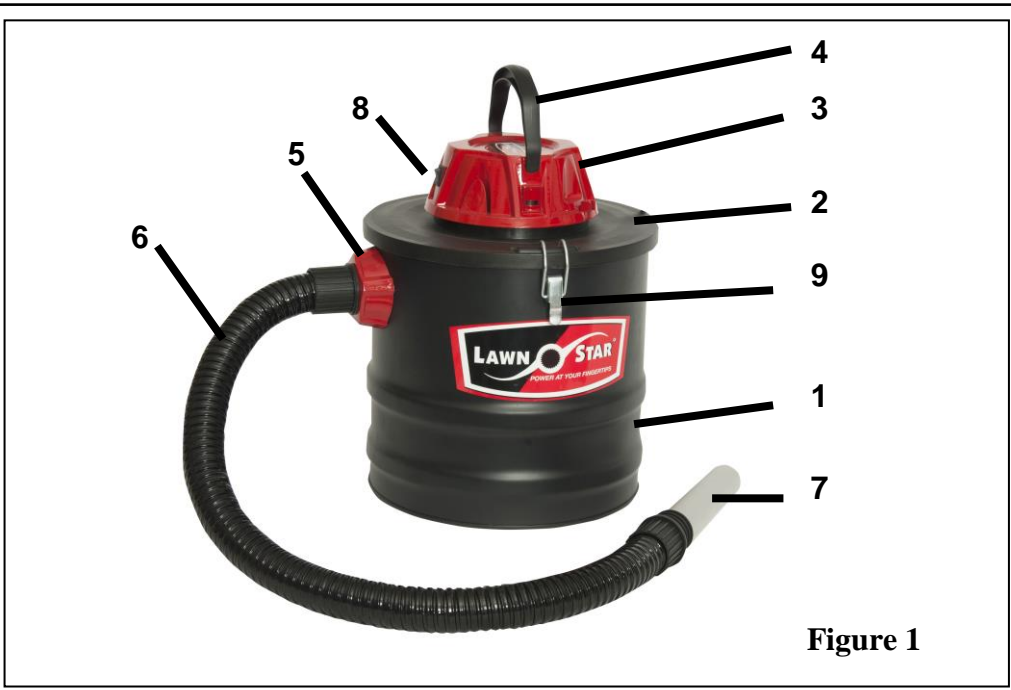

Figure 1
1. Unpack all components from packaging.(Figure 1)
2. Unclip latches and removed power head.(Figure 1)